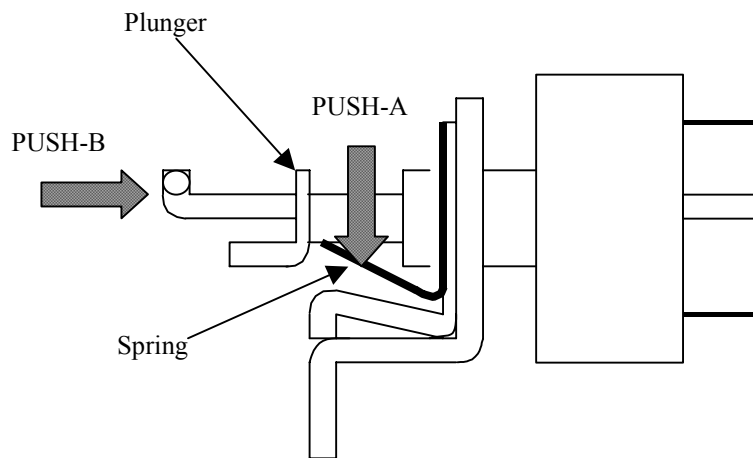

Fig. 2-2 Emergency condition
- (2-a) Push down (PUSH-A) the spring mounted in the removed EPO switch. (See Fig.2-2)
- (2-b) Then push (PUSH-B) the plunger into the EPO switch. (See Fig.2-2)
- (3) Attach the EPO switch.